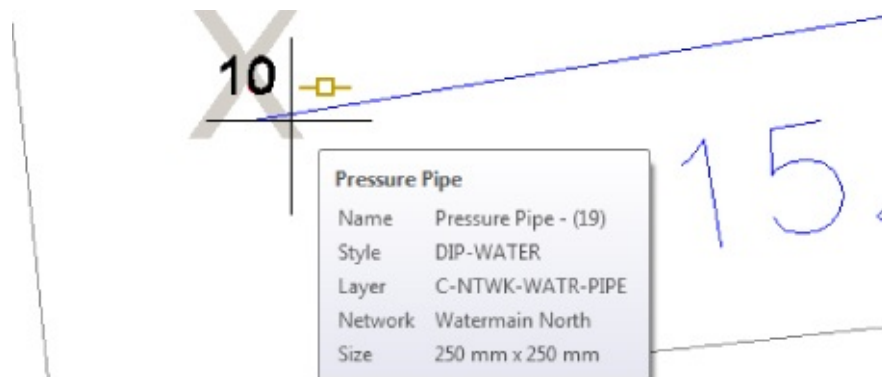

Figure 13.88 Add the fitting to the end of the pipe.
As you hover your cursor near the end of the pipe, you will see the Add Connection glyph, as shown in Figure 13.88.
25.  Select the Location grip, and move the tee to the east until you see the Connection glyph similar to the one you saw in Figure 13.88.
Be sure to look for the Attachment glyph before clicking, as shown previously in Figure 13.88. Don't be shy about zooming in close to get a good look at the object with which you are working.